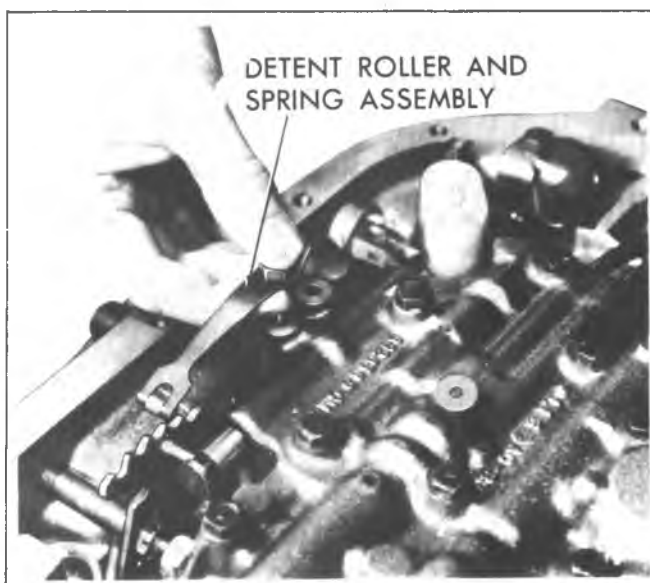

Fig. 7A-185C--Installing Detent Roller and Spring Assembly
3. Install control valve assembly and governor pipes on transmission, while carefully aligning the governor feed pipe over the governor screen (Fig. 7A-184C). Make certain gasket and spacer do not become mispositioned.